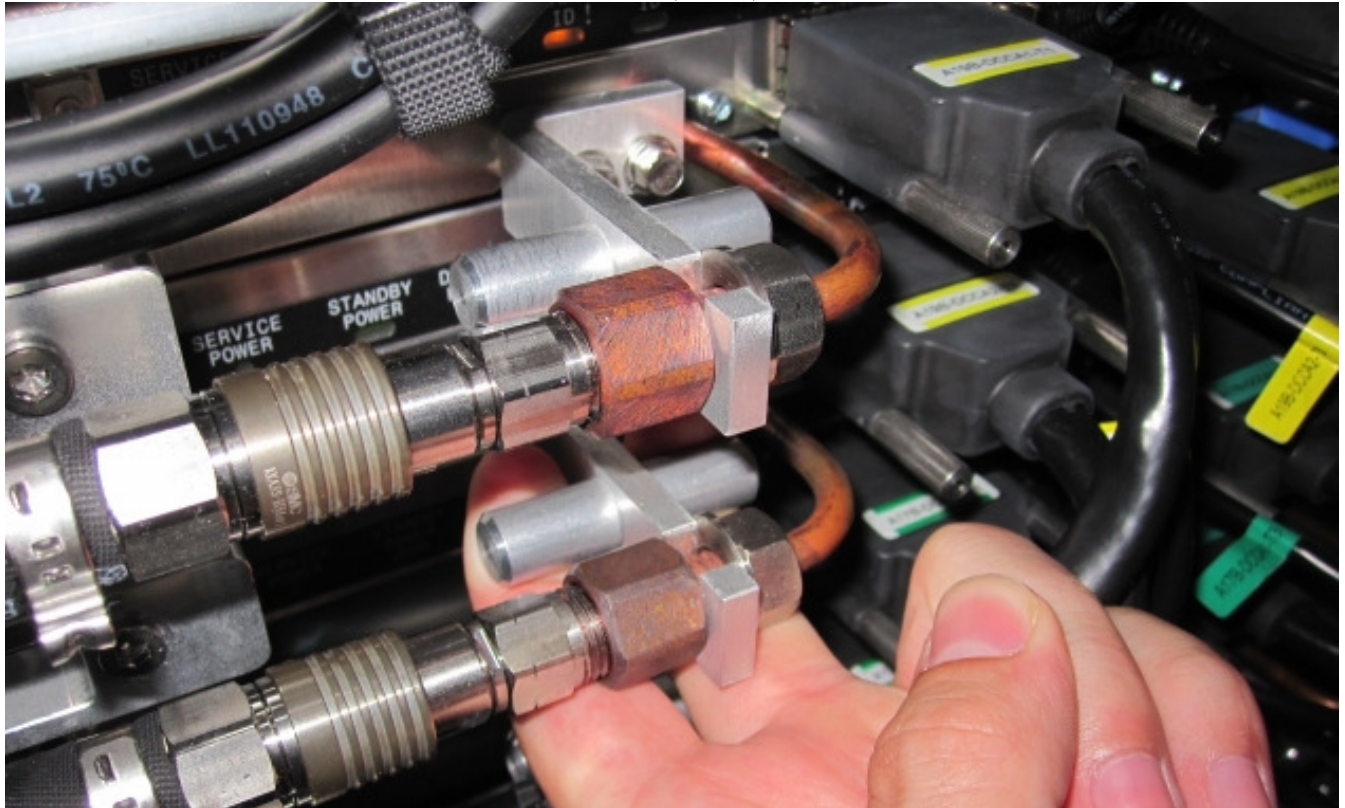

Figure 21 CEC Drawer removal features
STEP 34 Return to the front of the rack and start to slide the CEC Drawer out of the frame using the metal features as shown in Figure 21. The metal features are fixed to the DCCA to the left and right side of the DCCA Power Cables.